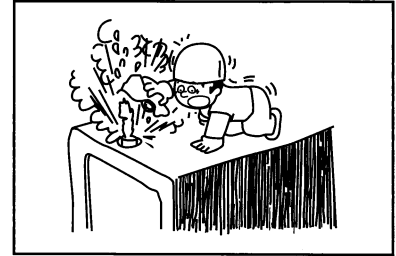

Figure 2-10
- While cleaning the machine, use the cleaning-addition which is not flammable. (Figure 2-10)